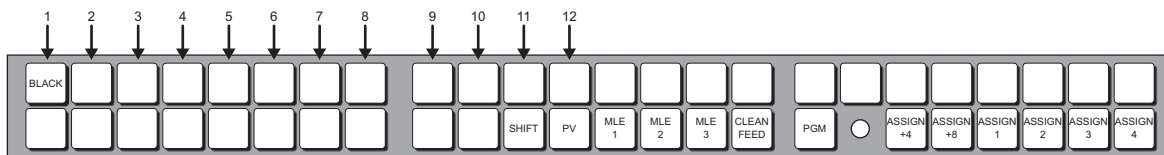

Figure 11.2 Aux Bus Output Buttons
8. In assignment programming mode, the first **12** crosspoint buttons (**Figure 11.2**) represent Aux Bus outputs in the range specified in **Step (3.)** above.